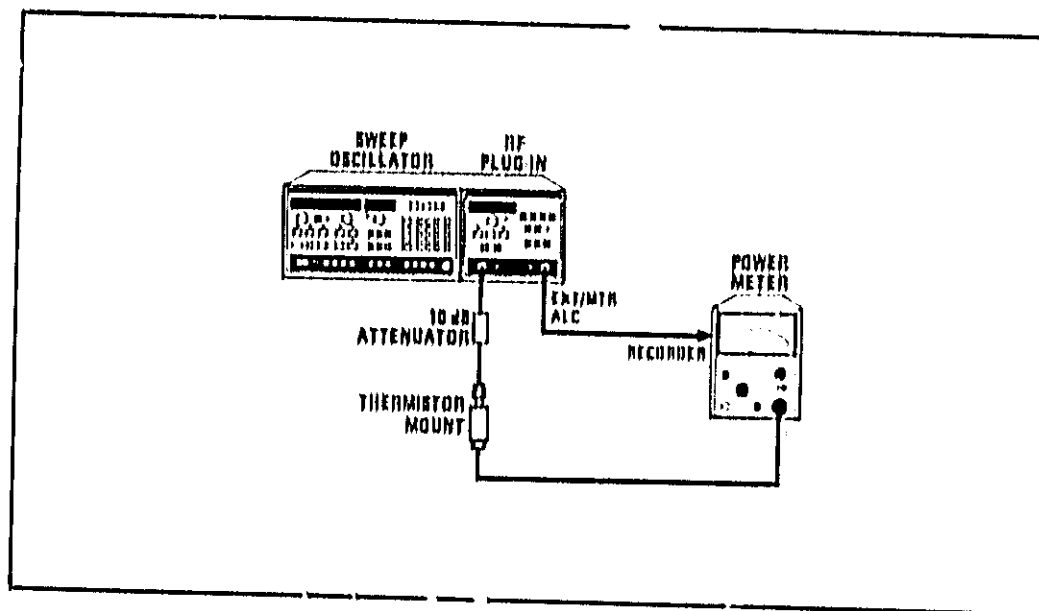

Figure 8-27. Power Meter Leveling Setup
- Attempt to level the power externally using the HP 432A Power Meter as shown in Figure 8-27. Select MTR leveling, and enter a slow (at least 30 seconds) sweep time. If the RF power is now leveled then the failure is most likely in the detector or the Detector Selection Switch, A4U6. Refer to the following paragraph. If this does not prove to be the case, the problem may be in the two analog switches U4B and U6A. It may be necessary to perform the ALC adjustments in Section V of this manual.